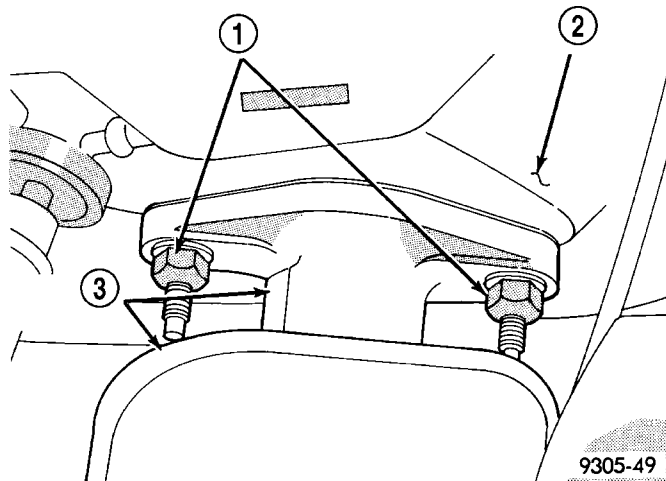

Fig. 66 Master Cylinder Mounting
(1) Disconnect brake fluid level switch wire connector on the side of the master cylinder reservoir.
(2) Disconnect primary and secondary brake tubes from master cylinder housing. Install plugs at brake tube outlets.
(3) Remove the 2 nuts attaching the master cylinder to the power brake vacuum booster (Fig. 66).
(1) Install master cylinder on studs of power brake vacuum booster, aligning the booster push rod with master cylinder piston.
(2) Install the master cylinder mounting nuts (Fig. 66). Tighten the nuts to a torque of 28 N·m (250 in. lbs.).
(3) Connect brake tubes to master cylinder primary and secondary ports. Tighten fittings to 17 N·m (145 in. lbs.) torque.